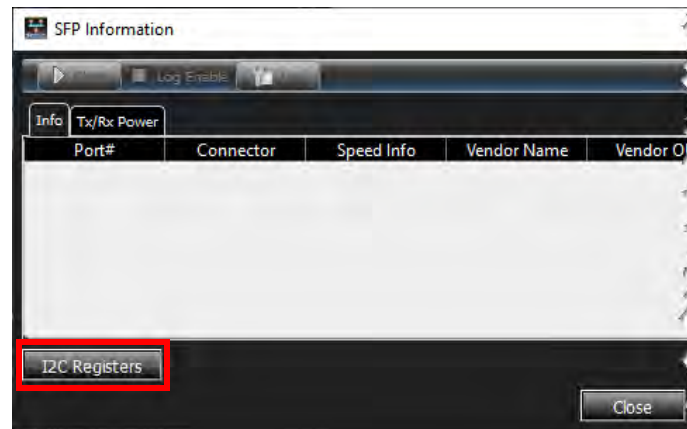

Figure 4.44: SFP Information Window
- From the main screen, right-click on the Port Status area , then select **SFP Information** from the drop-down menu. The SFP Information window appears (Figure 4.44).
NOTE: ♦ If the “Stop” button is clicked, the analyzer will ignore the Event Trigger, stop recording data and move automatically to the next step in the sequence (Indexing). See Figure 4.44: .